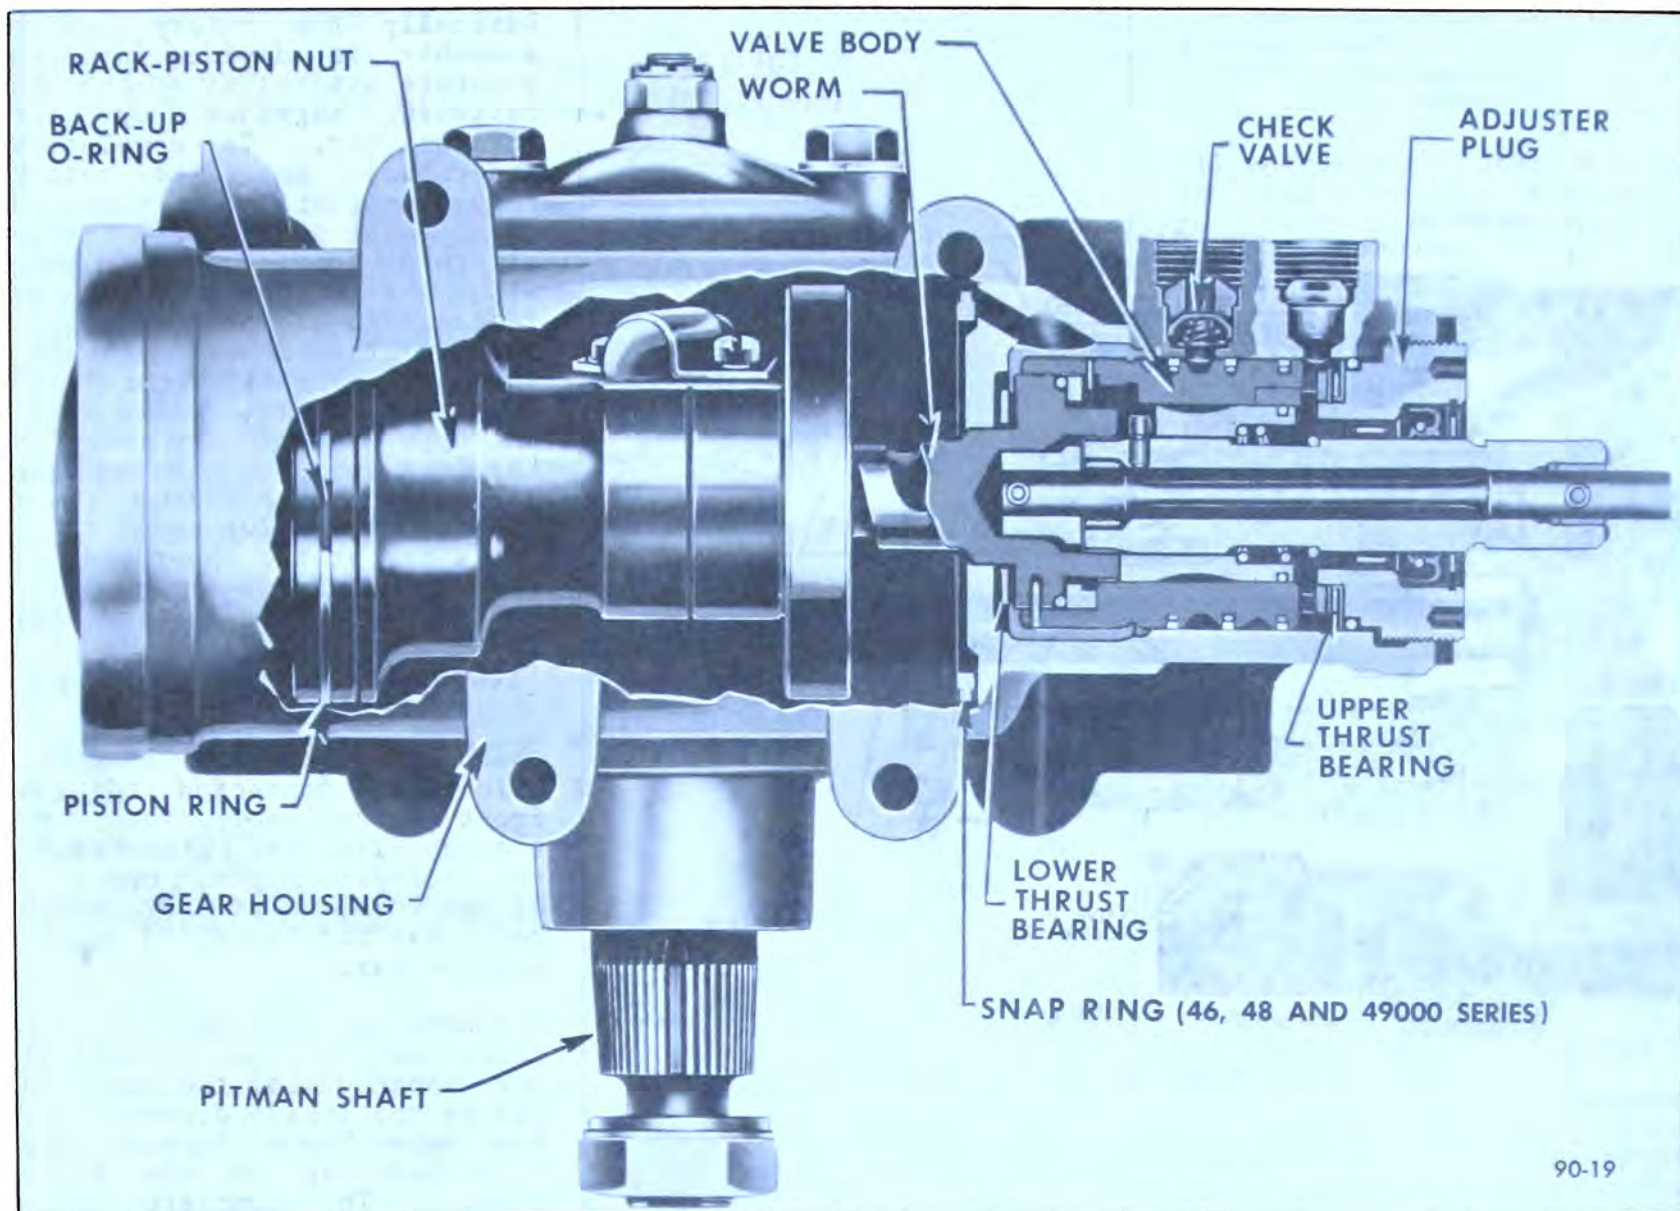

Figure 90-16 Power Steering Gear
1. Wildcat, Electra, and Riviera gears have a snap ring located at the upper end of the housing which serves as a stop for the rack piston assembly. See Figure 90-16.